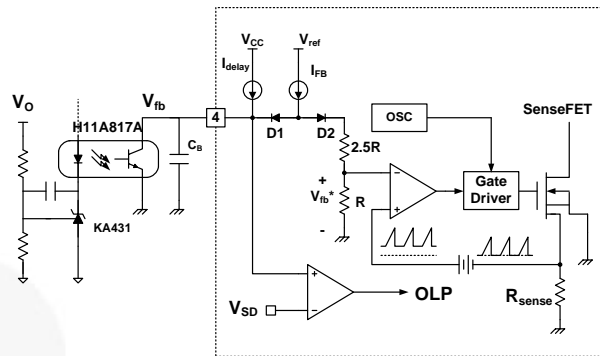

Figure 32. Pulse Width Modulation (PWM) Circuit
3. Feedback Control: The FSCQ series employs current mode control, as shown in Figure 32. An opto-coupler (such as Fairchild's H11A817A) and shunt regulator (such as Fairchild's KA431) are typically used to implement the feedback network. Comparing the feedback voltage with the voltage across the R_{sense} resistor, plus an offset voltage, makes it possible to control the switching duty cycle. When the reference pin voltage of the shunt regulator exceeds the internal reference voltage of 2.5 V, the opto-coupler LED current increases, pulling down the feedback voltage and reducing the duty cycle. This typically occurs when input voltage is increased or output load is decreased.
3.1 Pulse-by-Pulse Current Limit: Because current mode control is employed, the peak current through the SenseFET is limited by the inverting input of the PWM comparator (V_{fb}^*) as shown in Figure 32. The feedback current (I_{FB}) and internal resistors are designed so that the maximum cathode voltage of diode D_2 is about 2.8 V, which occurs when all IFB flows through the internal resistors. Since D_1 is blocked when the feedback voltage (V_{fb}) exceeds 2.8 V, the maximum voltage of the cathode of D_2 is clamped at this voltage, thus clamping V_{fb}^* . Therefore, the peak value of the current through the SenseFET is limited.